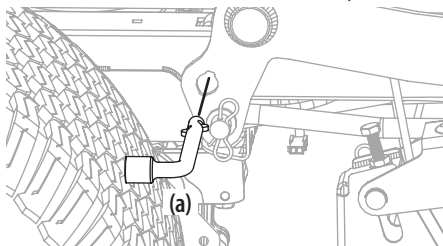

Figure 43
5. On tractors equipped with the deck lift knob, use the deck lift pedal and deck lift knob to place the deck in the lowest position and use the multi-tool (a) to lock the deck lift components in place as shown in Figure 43. On tractors with a deck lift handle, lower the deck into the lowest position.